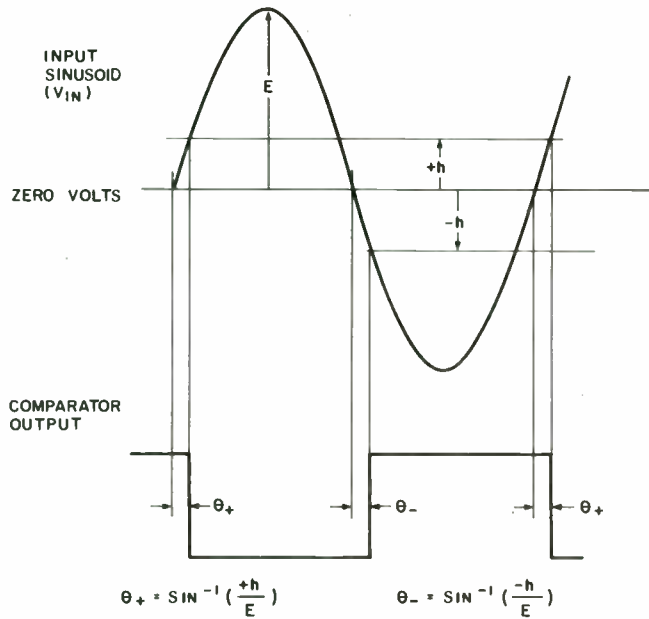

FIGURE III-8: Effects of hysteresis on the comparator.
Components R3, R4, R5 and C4 provide hysteresis (h) for the comparator to ensure fast, clean switching. Hysteresis is the term used for making the threshold of a comparator a function of the last transition's direction—i.e., giving it memory. Figure III-8 clarifies this. As the input sinusoid rises from below 0V, it must rise to +h before the comparator output will go low. Once the comparator output goes low, the threshold moves to -h, so the input must drop past zero to -h before the comparator output will go high and move the threshold back to +h. If +h equals -h in amplitude, then the hysteresis is symmetrical about 0V. Assume that the comparator output moves a full 12V, which is fed back to the non-inverting comparator input multiplied by the following ratio:
*See Fig. III-8 for definitions of terms.
Note that in this series, I have increased the DC hysteresis on the comparators and made it more symmetrical. *Figure III-8* shows the effects of this. Assuming good input signal symmetry, if $+h$ equals $-h$, the symmetry is preserved as θ_+ equals θ_- . Thus, a large amount of symmetrical DC hysteresis does not in itself cause a problem. What causes trouble is that θ_+ and θ_- change with the magnitude of the input signal. If the two AC signals coming to the comparators have different magnitudes, DC hysteresis will introduce phase error.